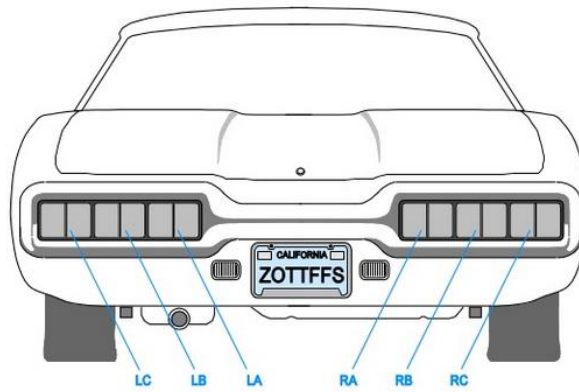

Figure 1
**Problem Statement:** Design a state machine to control the tail lights of a 1965 Ford Thunder bird (Figure 1). The tail lights are composed of three lights on each side which operate for the turns as shown in figure 2. The state machine has two inputs (**LEFT, RIGHT**) and 6 outputs (**LC, LB, LA, RA, RB and RC**). When (**RIGHT=0 and LEFT=0**) or when (**RIGHT=1 and LEFT=1**) no lights will turn ON. If (**RIGHT=0 and LEFT=1**) then lights LC, LB, and LA will be ON as shown in figure 2(a) indicating **LEFT** turn. If (**RIGHT=1 and LEFT=0**) then lights RA, RB, and RC will be ON as shown in figure 2(b) indicating **RIGHT** turn. In addition to LEFT and RIGHT there are two more inputs **Clk** and **Reset** for normal operation of FSM. When **Reset** is enabled all lights will be OFF. The flashing rate of LEDs is 2Hz (or 4Hz) (i.e. the time between two successive states is 0.5s (or 0.25s)).